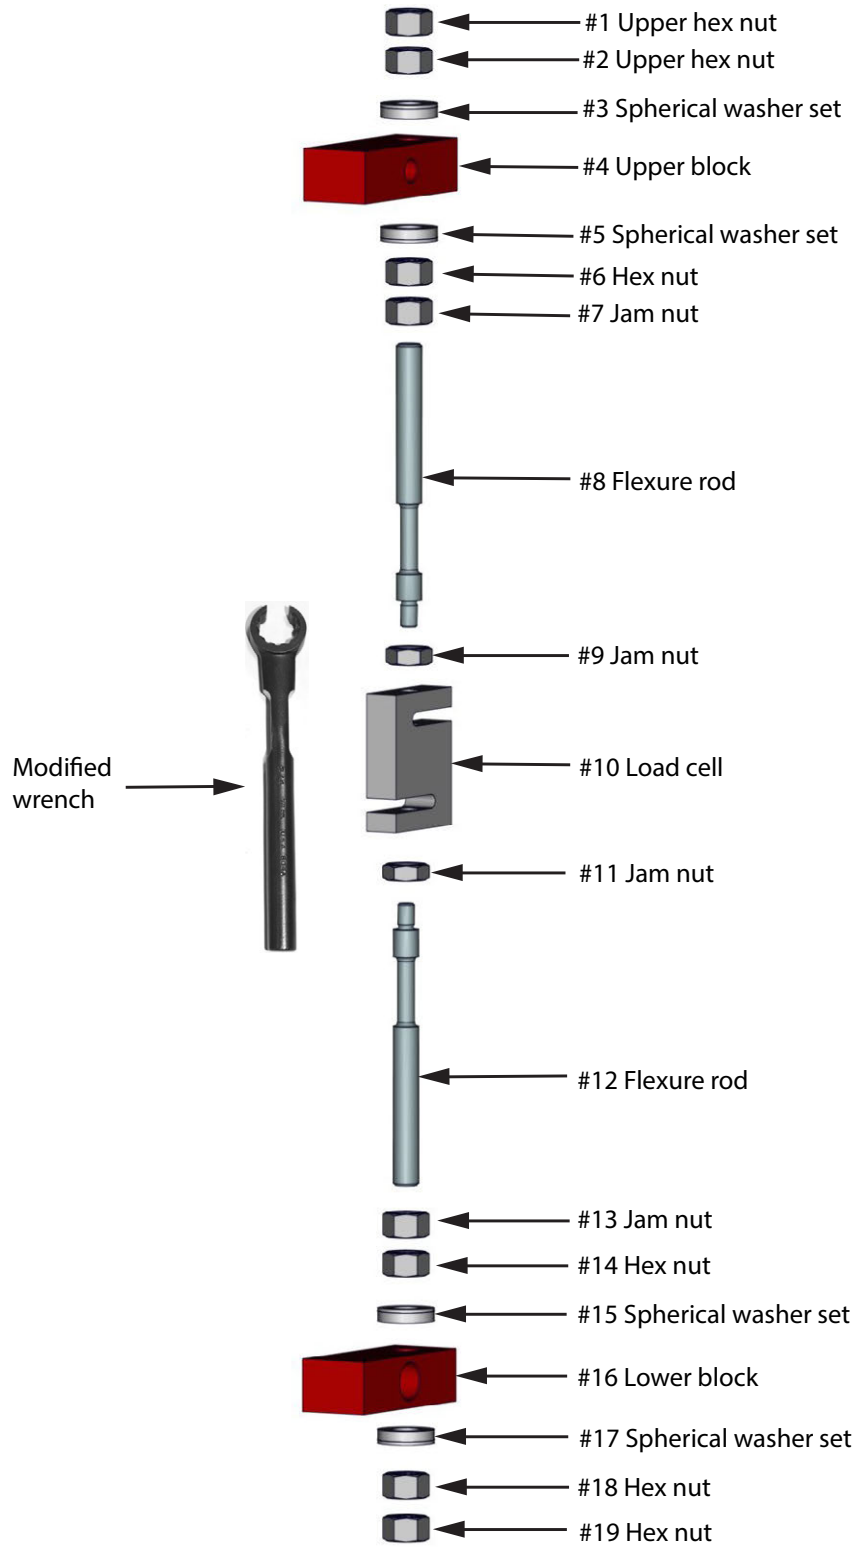

Figure 3-8. CLS Load Cell Assembly Parts Breakout
5. Loosen jam nut (#7) from the upper block using the special modified box wrench (PN 96196 - supplied with load cell replacement kit) and shown in Figure 3-8.
21. Insert the load cell and thread flexure rods into top and bottom of the load cell making sure the appropriate hex nuts, jam nuts, and spherical washers are in the correct order per Figure 3-8 on page 22.